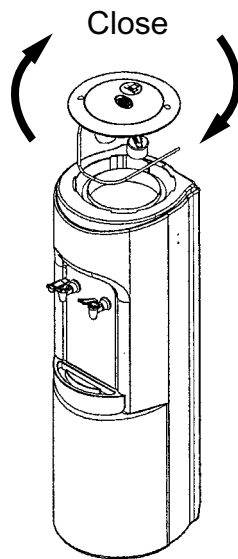

Figure 19.
6. Install the POU kit on the CC Basic™ unit (Figure 19).